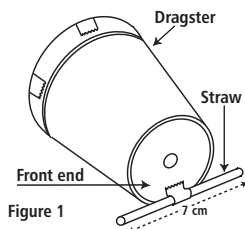

Figure 1
3. Cut a straw 7 cm long and tape the straw to the rim of the front end of the dragster. See figure 1.